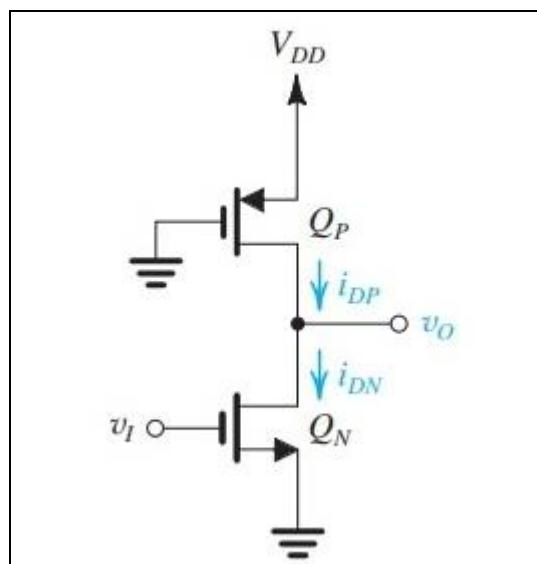

Figure 1: Pseudo NMOS logic Inverter
The modified form of the CMOS inverter is shown in Figure 1. Here, only  $Q_N$  is driven by the input voltage while the gate of  $Q_P$  is grounded, and  $Q_P$  acts as an active load for  $Q_N$ . An advantage over standard CMOS is that each input needs to be connected to the gate of only one transistor or, alternatively, only one additional transistor (an NMOS) will be needed for each additional gate input. Thus the area and delay penalties arising from increased fan-in in a standard CMOS will be reduced. This is indeed the motivation for exploring this modified inverter circuit.
The inverter circuit of Figure 1 resembles other forms of NMOS logic that consist of a driver transistor ( $Q_N$ ) and a load transistor (in this case,  $Q_P$ ); hence the name pseudo-NMOS.
1. Connect the circuit on breadboard according to the given Figure 1 for implementing Pseudo NMOS inverter and note down the observed values in Table 1. Provide +5V VDD to the circuit.